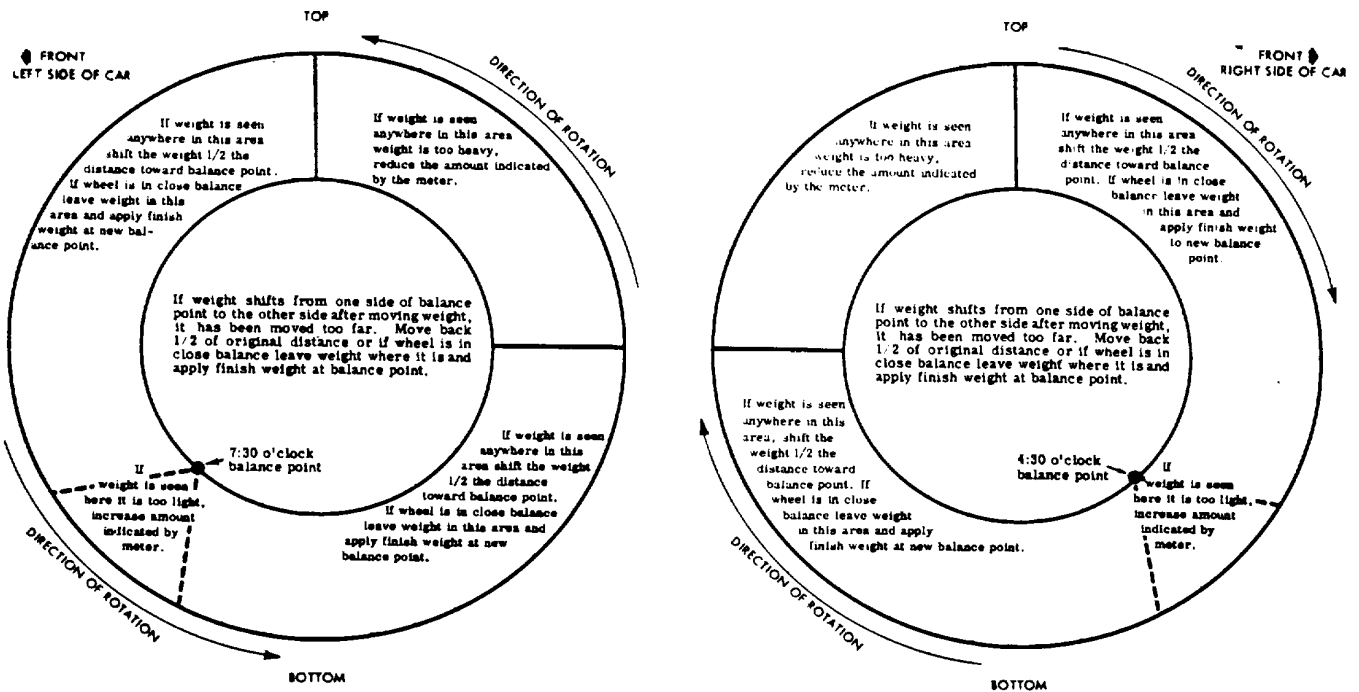

Fig. 5.
- b. Stop the wheel. Rotate the wheel by hand to position the weight in the apparent stationary location seen under strobe light operation, with switch in static position. Move or add weights as indicated in Fig. 5. Repeat until strobe light does not flash.
TESTS TO DETERMINE THE ACCURACY OF ELECTRONIC BALANCING. SEE FIGURE 5.
- b. Spin the wheel to speed and recheck for balance. If the strobe light flashes at balance speed of 35 MPH on speedometer, check for weight shift or incorrect amount of weight as shown in Fig. 5. See Sec II, para 8 for weight applications